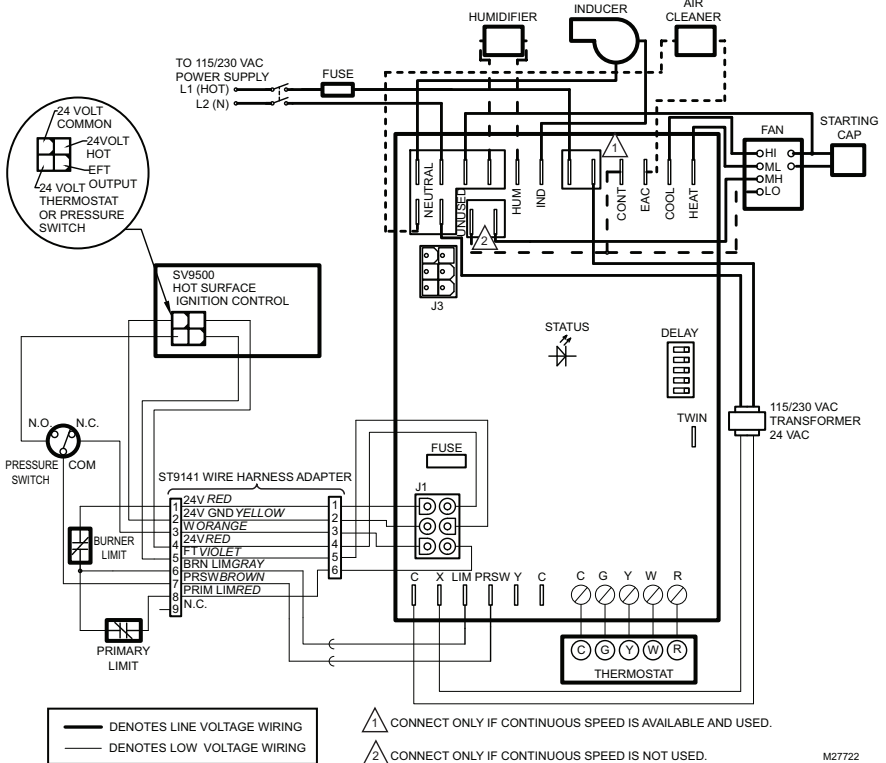

Fig. 4. Typical ST9120U wiring connections in ST9141 system with SV9500/SV9501 SmartValve™ Control.
- Check proper connection using Fig. 4.